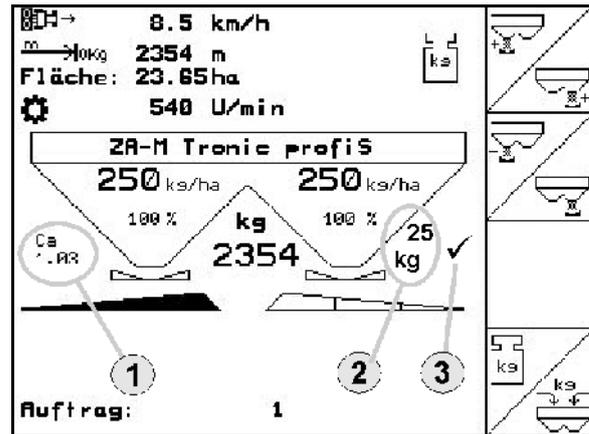

Fig. 38
- (1) current calibration factor (Fig. 38/1).
- (2) quantity dispensed since last online calibration, Online scales active.
- (3) Calibration factor is steady
- The display (Fig. 38/1, 2, 3) will go out.
- Spreading will continue with the calibration factor displayed (Fig. 38/1).